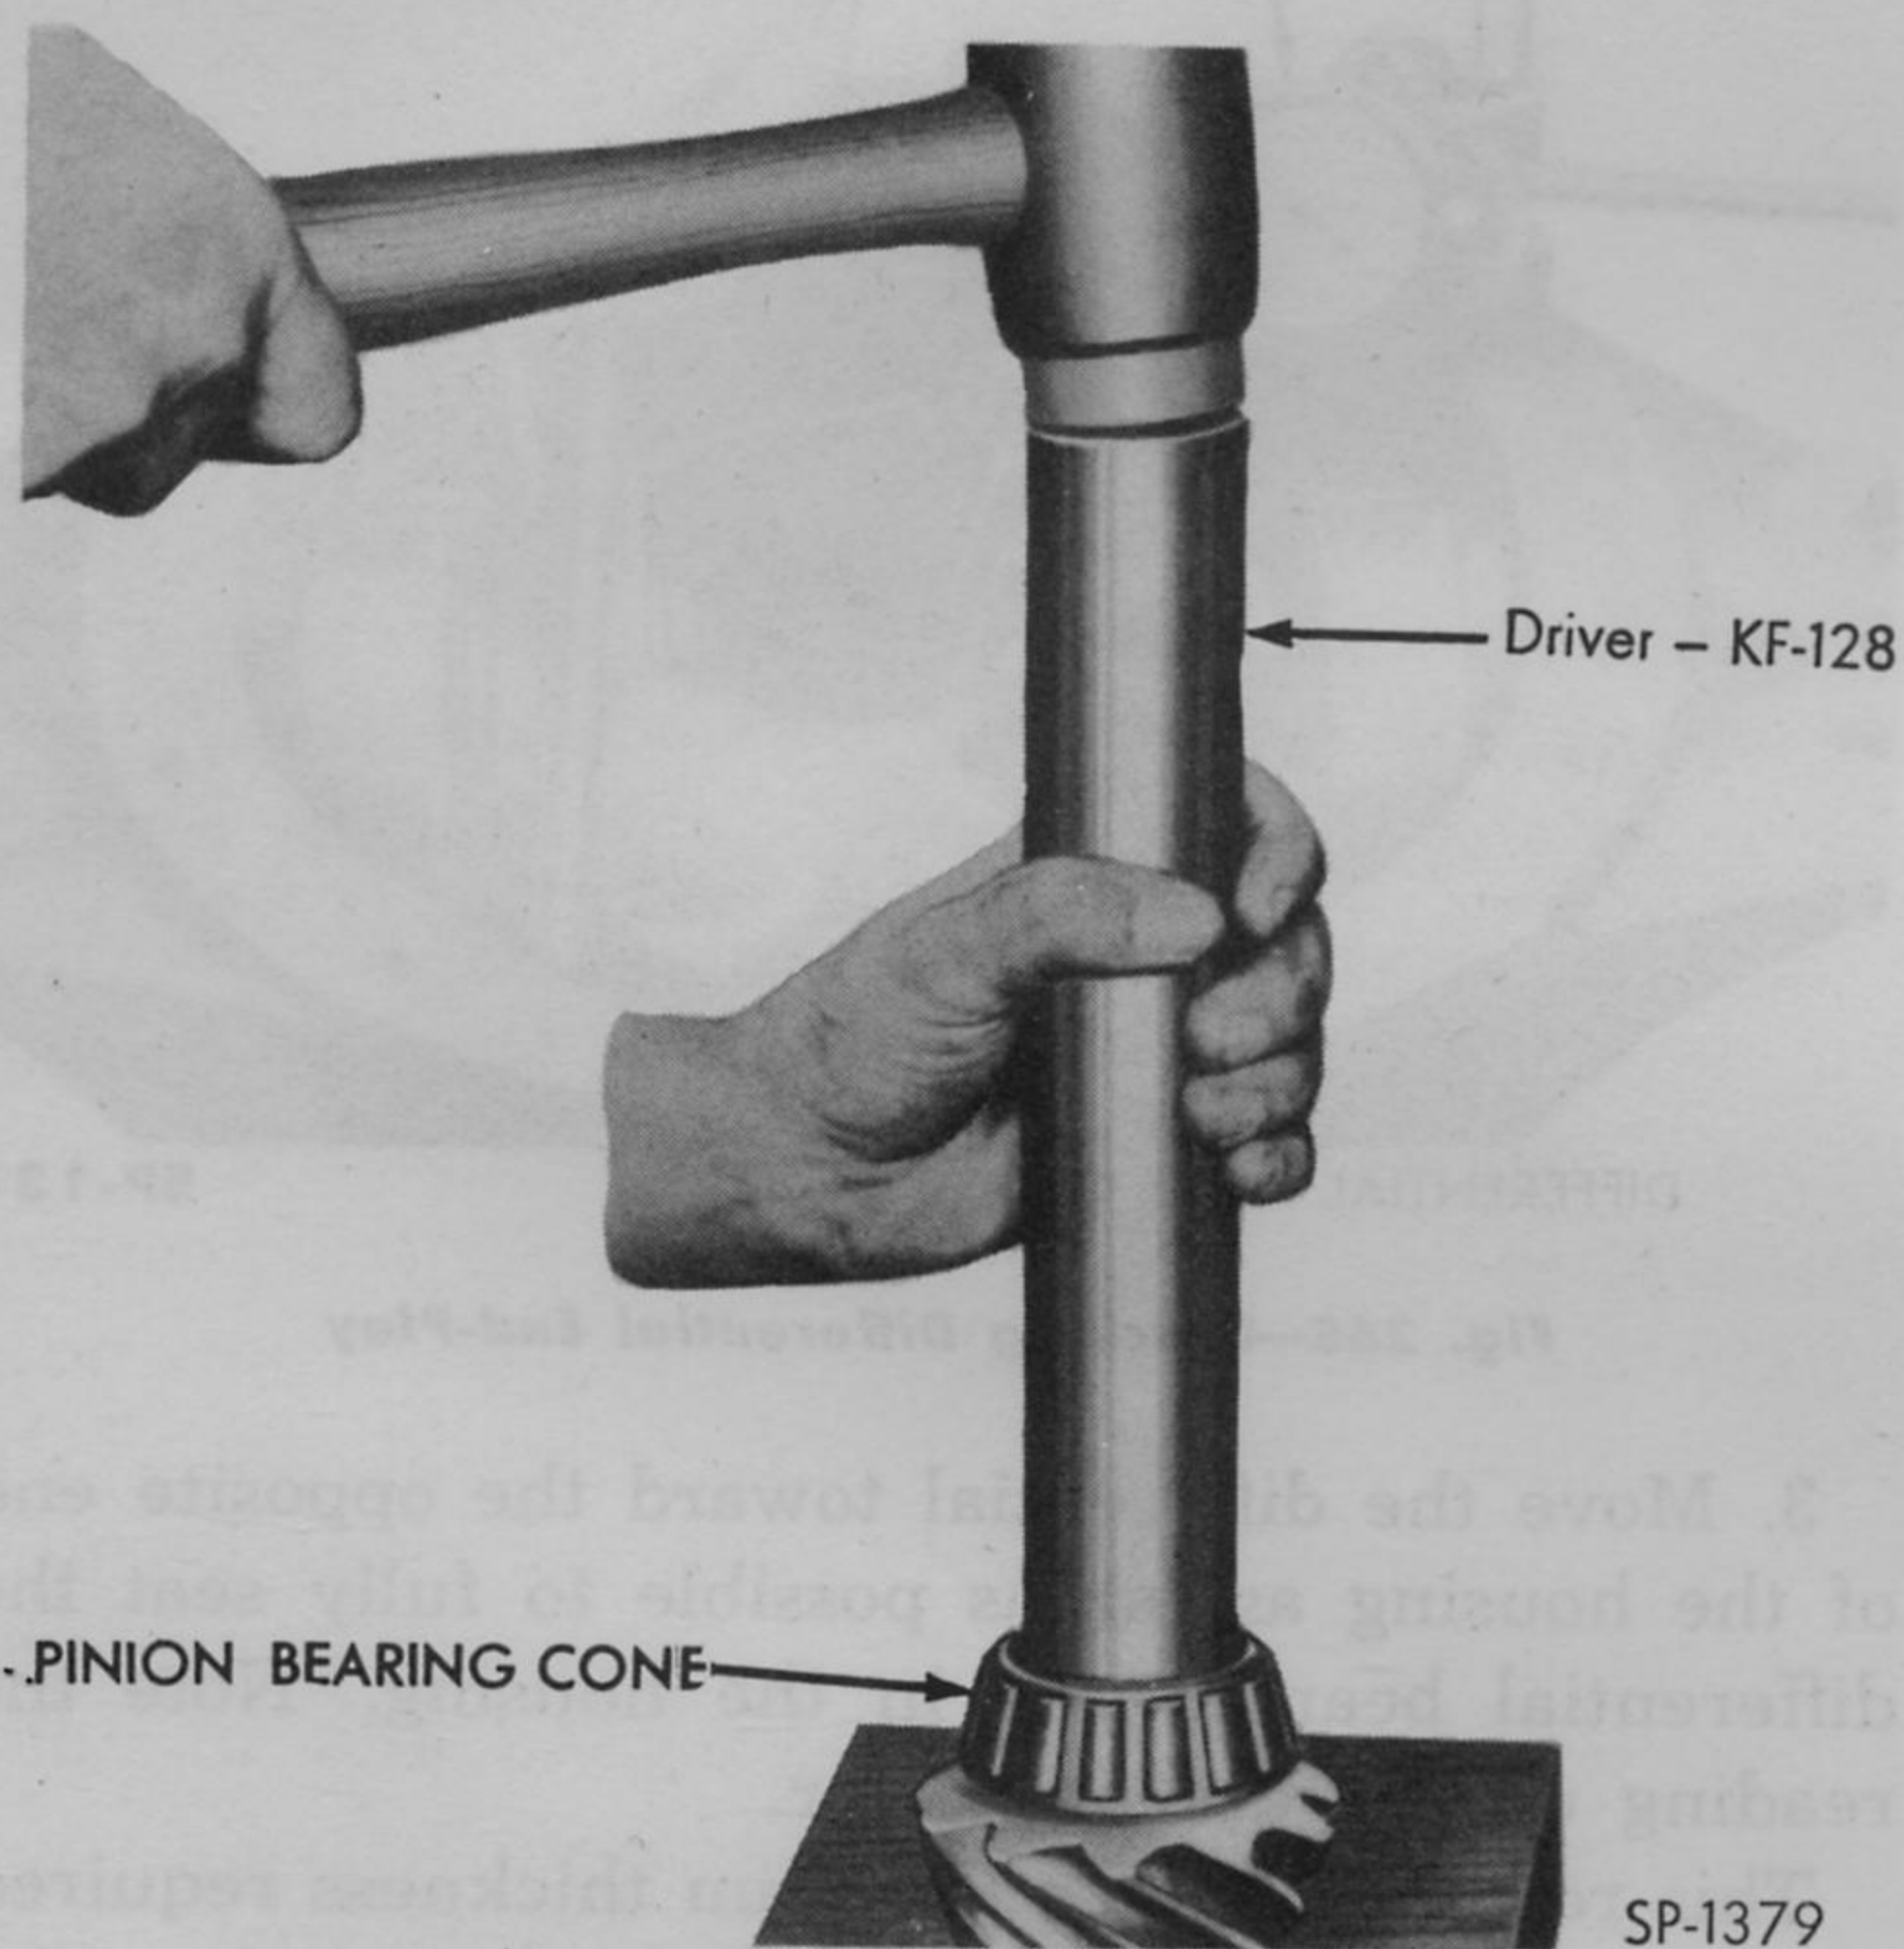

Fig. 269—Installing Pinion Rear Bearing Cone
1. Assemble the pinion rear bearing cone on the drive pinion shaft, using Driver KF-128 (Fig. 269). Lubricate the bearing cone with a medium weight grease.